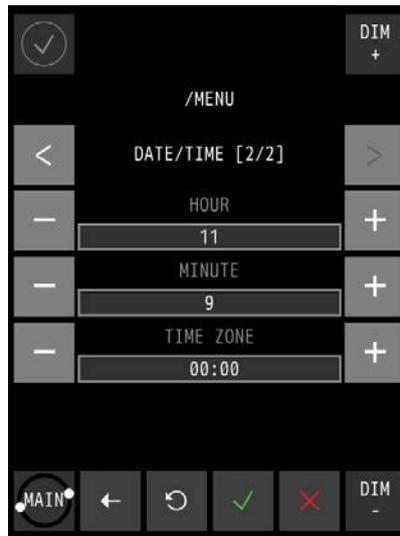

Figure 32: Date/Time Screen 2
3. Touch the > button to select the TIME screen, see *Figure 32: Date/Time Screen 2* on page 36.